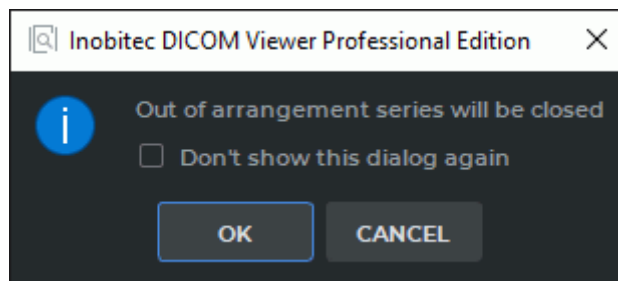

Figure 2.11: Warning dialog box
If the selected grid configuration has fewer cells than there are open series in the study, a warning dialog box pops up (Fig. 2.11), in which the program asks for a permission to close the open series.
- Check the **Don't show this dialog again** box in the dialog (Fig. 2.11) and click the **OK** button.